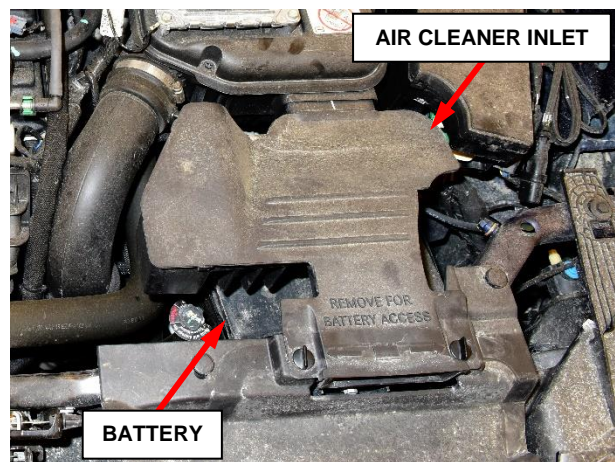

Figure 3 – MK/PM Only:
2. *(MK) Jeep Patriot, Jeep Compass and (PM) Dodge Caliber vehicles:* Remove the air cleaner inlet in order to access the battery (Figure 3).
5. *All vehicles:* Disconnect the upstream oxygen sensor electrical connector (Figures 3 and 4).
17. *(MK) Jeep Patriot, Jeep Compass and (PM) Dodge Caliber vehicles:* Install the air cleaner inlet (Figure 3).